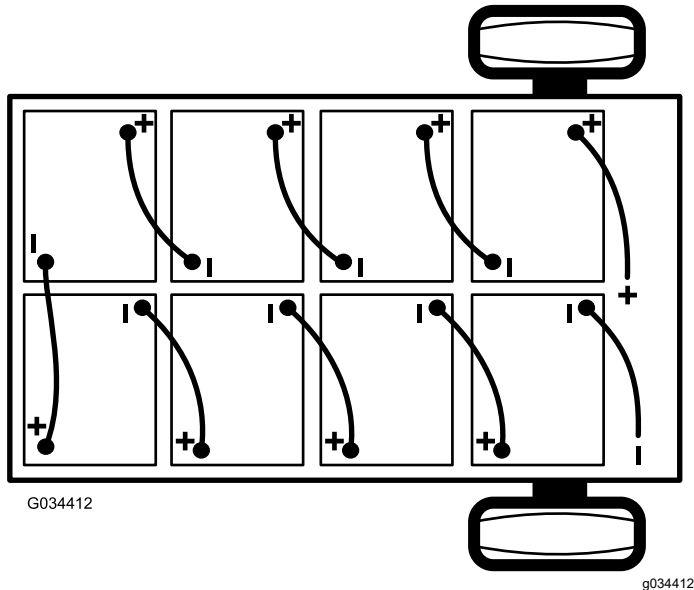

Figure 41
2. Disconnect the main negative-battery cable (black) that connects the bank of batteries to the ground point of the machine (Figure 41).
2. Connect the main positive-battery cable (red) between the bank of batteries and the machine (Figure 41).
3. Connect the main negative-battery cable (black) between the bank of batteries and the machine (Figure 41).
Note: Pay attention to the battery polarity when installing the new batteries (Figure 41).
6. Connect the batteries together as shown in Figure 41 with the battery-interconnect cables that you removed in step 1.